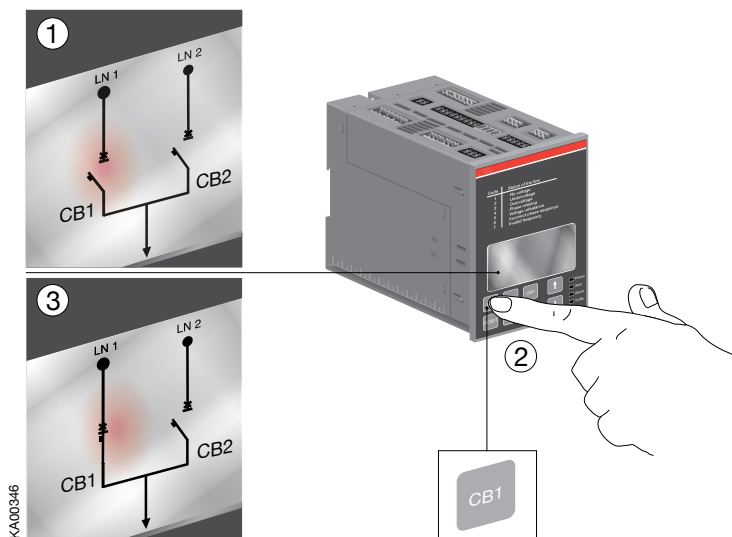

Figure 4.2 Selecting the operating line, the circuit breaker status and the chosen line indication in display terminal in ATS022
- b. When pushing the CB1 key (see the Figure 4.2/②), the circuit breaker CB1 will be in the ON position (the status and the line indication, see the Figure 4.2/③) and the circuit breaker CB2 will be in the OFF position. If the circuit breaker CB1 is already in the ON position, pushing the CB1 key opens the circuit breaker.